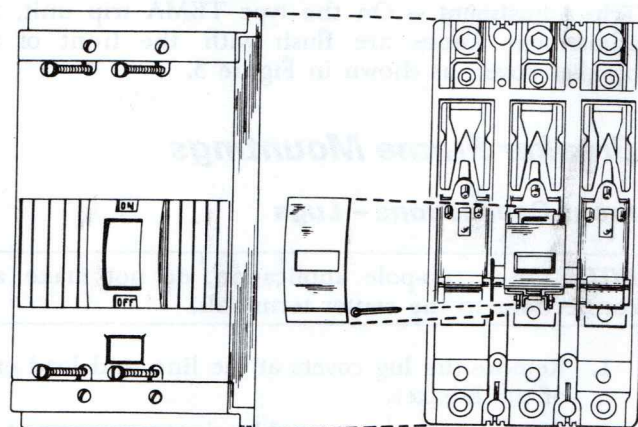

Figure 1. Removing the breaker front cover, handle shield, and cotter pin.
1. Unscrew the four breaker frame cover screws and remove the frame cover, handle shield, and shipping cotter pin from the mechanism, as illustrated in Figure 1.